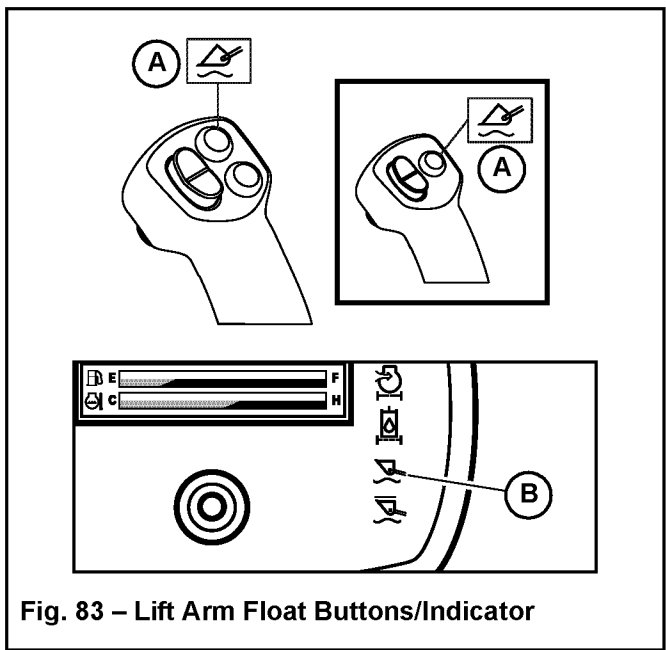

Fig. 83 – Lift Arm Float Buttons/Indicator
2. Press button (A, Fig. 83) on the right joystick to activate float:
- a. Press button (A, Fig. 83) momentarily to apply float momentarily.
- b. Press and hold button (A, Fig. 83) on the right joystick for 5 seconds to activate continuous float.